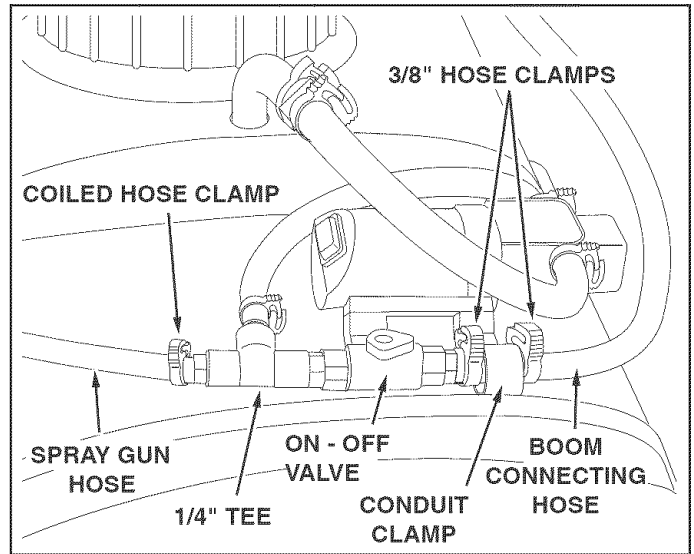

FIGURE 8 VIEWED FROM FRONT
- Slide a 3/8" hose clamp onto the boom connecting hose. Place the end of the hose through the conduit clamp (attached to the pump) and then slide a second 3/8" hose clamp onto the hose. Leave hose clamps loose for now. See Figure 8.
- Push the hose onto the hose adapter in the end of the "On-Off" valve. Tighten the hose clamp around the hose and adapter. See figure 8.
- Position the valve and hose clamp up against the conduit clamp. Slide the other hose clamp against the other side of the conduit clamp. Tighten the clamp without collapsing the hose. See figure 8.
- Slide the coiled hose clamp onto the spray gun hose and then push the hose onto the hose adapter on the 1/4" tee fitting. Tighten the hose clamp around the hose and adapter. See figure 8.